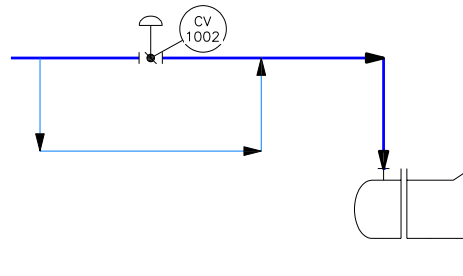

Figure 2-56 Location of the control valve on the steam inlet line
7. Similarly, place a control valve on the steam inlet pipe of the heat exchanger, as shown in Figure 2-56. Note that you need to specify **Butterfly Valve** and **Diaphragm Actuator** as the valve body and actuator, respectively.